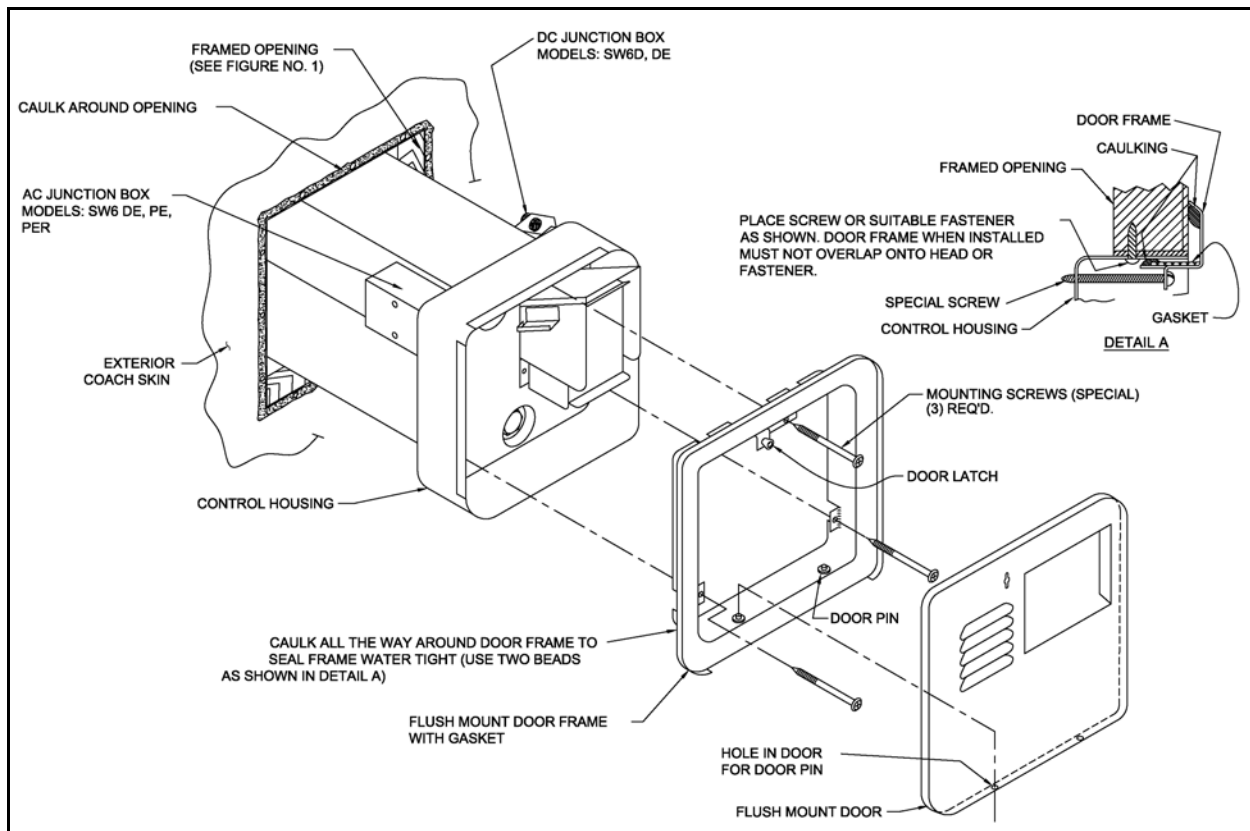

Figure 2
### INSTALLATION USING FLUSH MOUNT FRAME & DOOR (See Figure 2 for Illustration)
- B.** Refer to Figure 2 for location of D.C. junction box on models SW6D and SW6DE. Refer to Figure 5 and 6 for location of D.C. junction box on models SW6DM and SW6DEM.
- B.** Refer to Figure 2 for location of A.C. junction box on model SW6DE. Refer to Figure 6 for A.C. junction box on model SW6DEM.